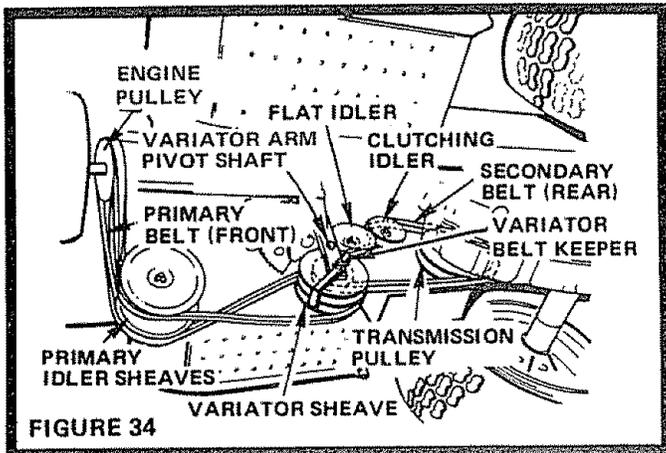

FIGURE 34
- d. Remove Primary Belt from Engine Pulley (Fig. 34).
- f. Remove Klip Ring and Washer from Variator Pivot Shaft (Fig. 34). Slide Pivot Arm inwards.
- h. Remove Idler Nuts and Idler Sheaves from Primary Idler Sheaves (Fig. 34).
- j. To replace Secondary (Rear) Belt move Varidriven Control Lever to fast position. Remove Variator Belt Keeper (Fig. 34) and remove Secondary Belt from Variator.
- k. Remove Clutching Idler (Fig. 34).